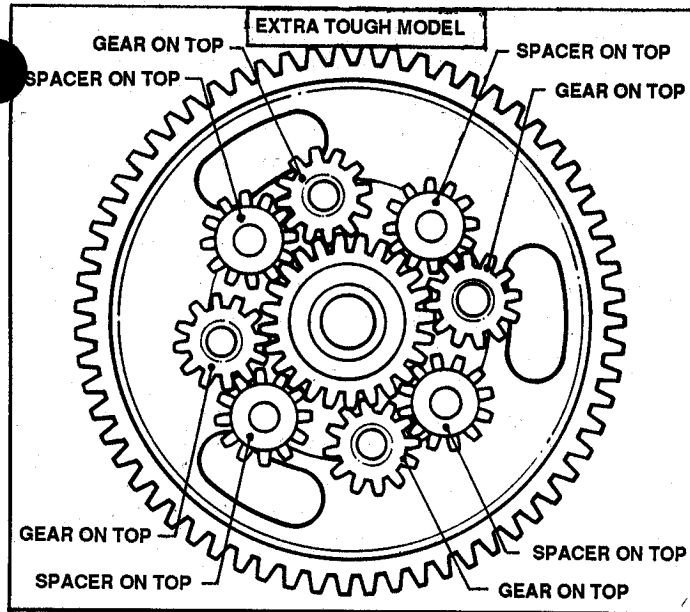
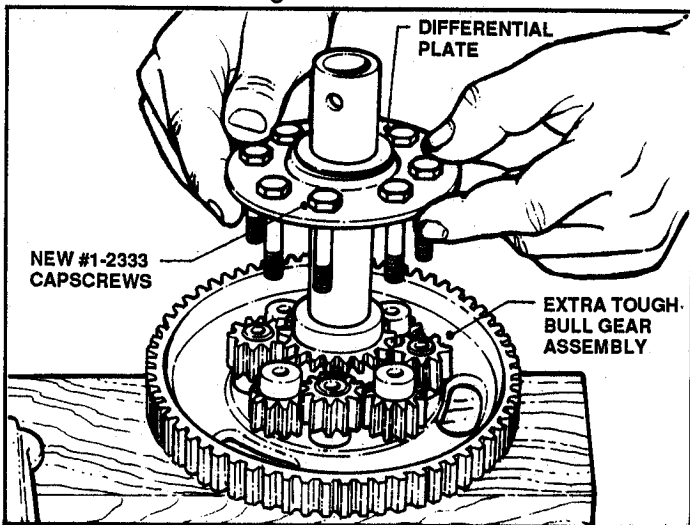

FIGURE 4.23
FIGURE 4.24
- (b) Install eight twelve-tooth pinion gears and spacers in staggered position - spacer below one gear and above on the next. See Figure 4.23.
- (c) Insert new **SNAPPER #12333** capscrews in differential plate and install over pinion plate. See Figure 4.24.
- (c) See NOTE after Figure 4.23 and CAUTION after Figure 4.24.
- (d) Insert **NEW SNAPPER #12333** capscrews in differential plate and install over pinion plate. Refer to Figure 4.24.